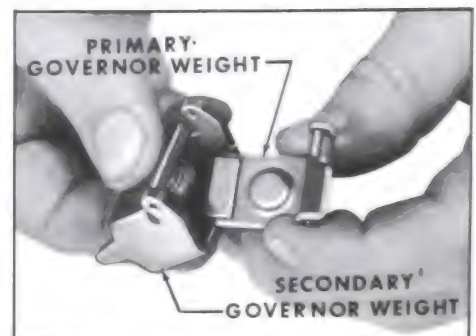

Figure 5-248
3. Retaining governor weight spring in primary governor weight with finger insert secondary governor weight. Repeat Steps 2 and 3 for other governor weight. See Figure 5-248.